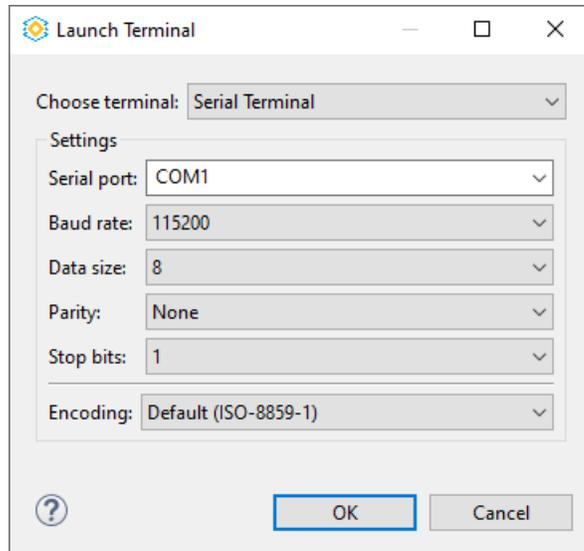

Figure 3.39. Launch Terminal Dialog
2. In the **Terminal** view, click the **Open a Terminal** icon. The **Launch Terminal** dialog opens (Figure 3.39).